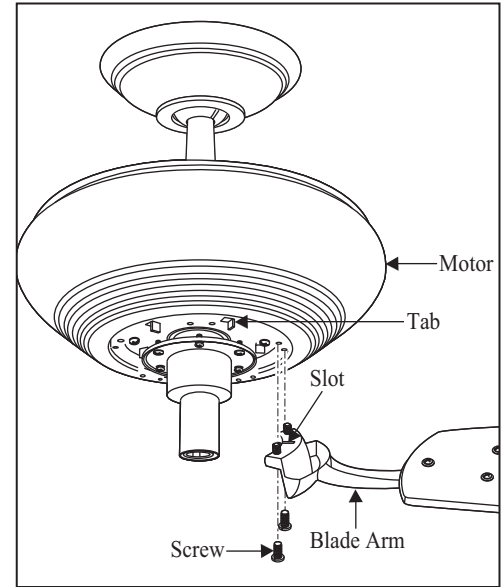

Figure 18
3. Fasten the blade assemblies to the motor housing by lining up the slots of the blade arms with the tabs on the motor housing, then tighten the two screws and washers already installed in the blade arms (Figure 18).